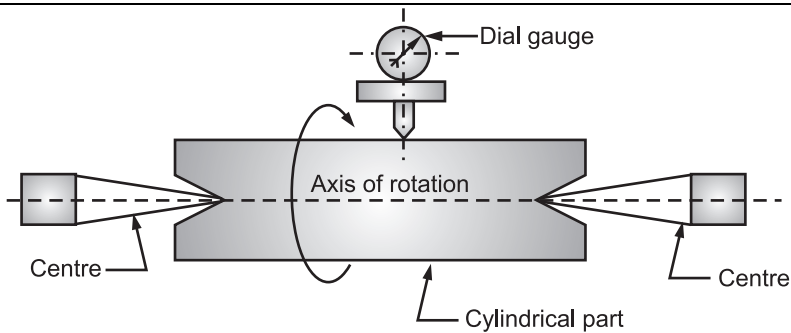

Fig. 8.12
- Roundness of some parts can be inspected by mounting them on centres. Refer figure 8.12.